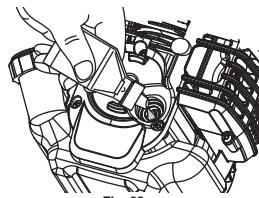

Fig. 39
- Refill the crankcase with 3.04 fluid ounce (90 ml) of SAE 30 SF, SG, SH oil (Fig. 39).